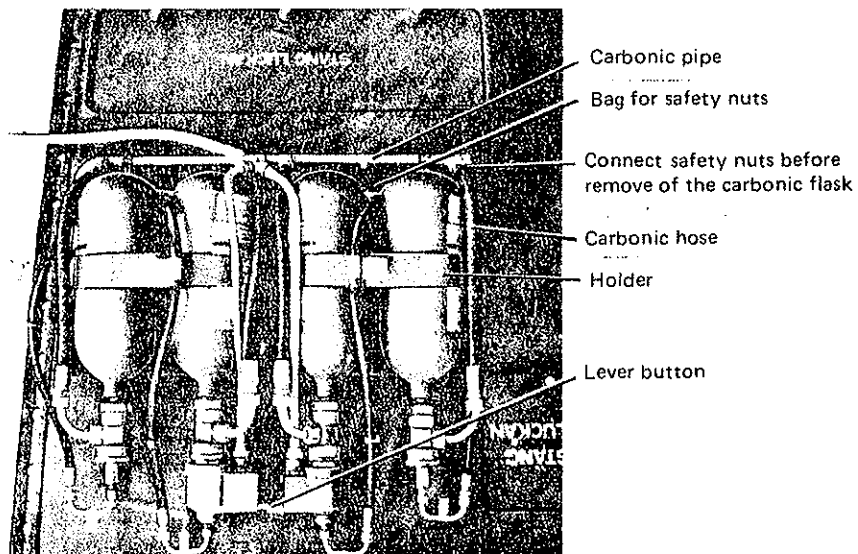

Fig. 7. Carbonic flasks connected
- o Pull the white lever button on the electrical magnet. See fig 7.